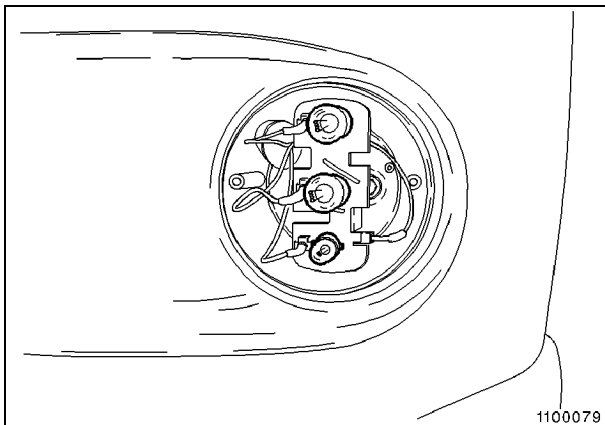

Fig. 7
- The lamp bulbs (Fig. 7) are installed in plug-in holders.